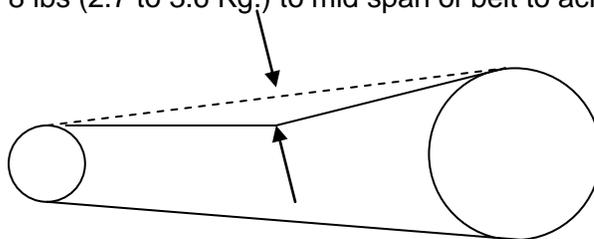

Figure A-1
- B. Reinstall, and Torque the four (4) Compressor Drive Motor Mounting bolts to 60 to 85 inch lbs., and safety wire per MIL-P-8564 Paragraph 3.3.7 using MS20995C-32 safety wire.
- C. Reinstall the six (6) AN3-4A Bolts in the base of the 412AC-9020-1 Ground Cooling Pallet Assembly and torque to 60 to 85 inch lbs. (6.77 to 9.60 Nm.).
- D. Reinstall the Compressor Drive Belt on the Compressor Drive Motor Pulley and the Compressor Pulley. Tension the Drive Belt as shown in Figure A-1. On completion of Belt Tensioning, torque Compressor mounting bolts to 95 to 110 inch Lbs (10.74 to 12.43 Nm.).
- B. Adjust the belt tension by turning the belt tension link (See Figure A-1 for belt tensioning information.)
The correct tension is indicated by a .10 inch deflection achieved when 6 to 8 lbs (2.7 to 3.6 Kg.) is applied to the mid span of the Drive Belt. (See Figure A-1 below)